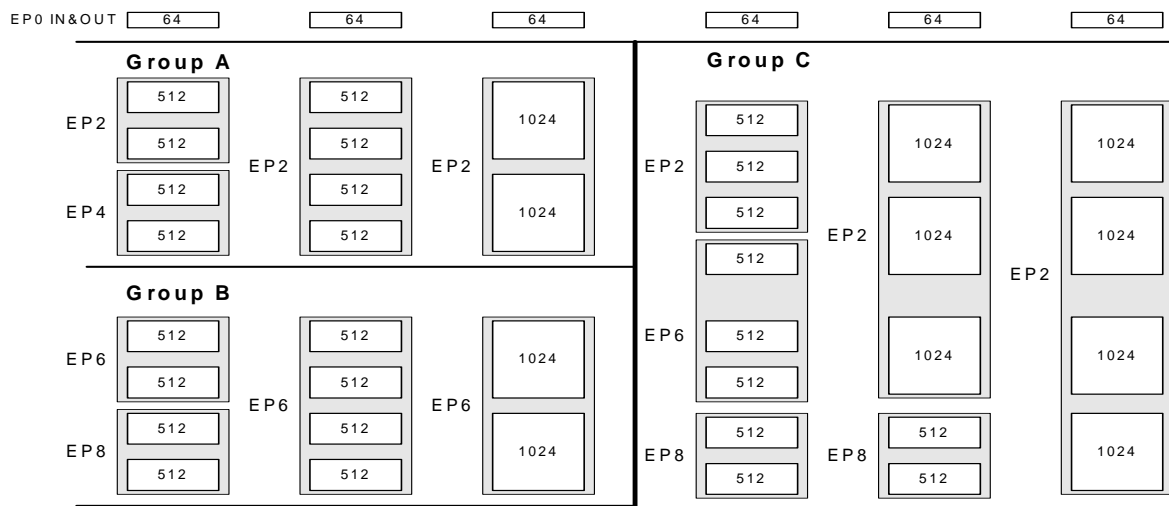

Figure 3-1. Endpoint Configuration
- EP2, 4, 6, 8—Eight 512-byte buffers, bulk, interrupt, or isochronous. EP2 and 6 can be either double, triple, or quad buffered. For high-speed endpoint configuration options, see *Figure 3-1*.
Endpoint 0 is the same for every configuration as it serves as the CONTROL endpoint. For Endpoints 2, 4, 6, and 8, refer to Figure 3-1. Endpoints 2, 4, 6, and 8 may be configured by choosing either: